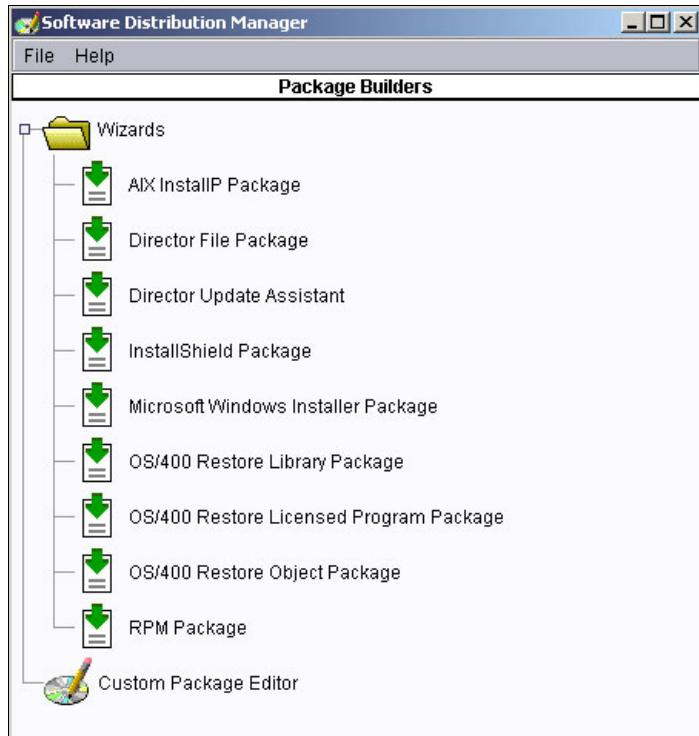

Figure 7-13 Software distribution manager window
3. Select the Software Distribution task, right-click the task, and select **Open**. The Software distribution manager window opens. Expand the Wizards file. See Figure 7-13 for details.
13. Once all the images have been processed, this window will close automatically and will return to the Software Distribution Manager window, Figure 7-13 on page 260. Select **File → Close** to close this window and return to the IBM Director console.